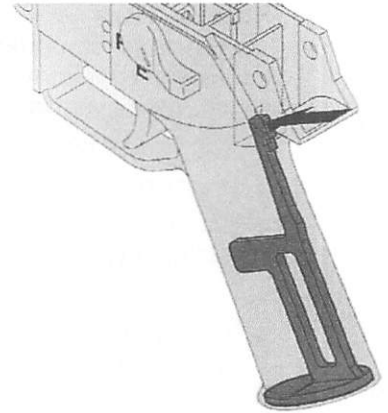

Fig. 52 Replace cover
- ⇒ Using a screwdriver, push the cover catch inwards and downwards (Fig. 52).